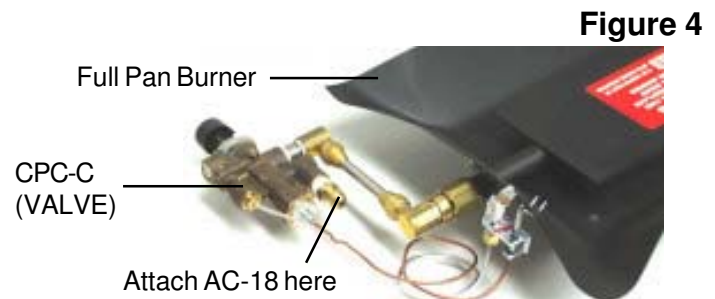

Figure 4
1. The gas supply line should be 1/2" Inside Diameter (ID) up to 30 feet and 3/4" for longer distances.
2. Use the **aluminum connector** to connect gas supply to the flared brass fitting on the back side of the CPC-C valve. When bending aluminum tubing use proper bending procedures to avoid kinking the tube. (If a safety pilot control is used follow instructions included for connecting gas to the pilot control. (Fig. 4)
(See Figure 4.)